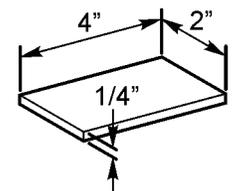

Figure 5
- 6) See **Figure 5**. A 1/4" x 2" x 4" piece of flat bar is used as a spacer to help align the rail 1/4" below the deck of the trailer. Locate or fabricate a spacer for installing the rail.